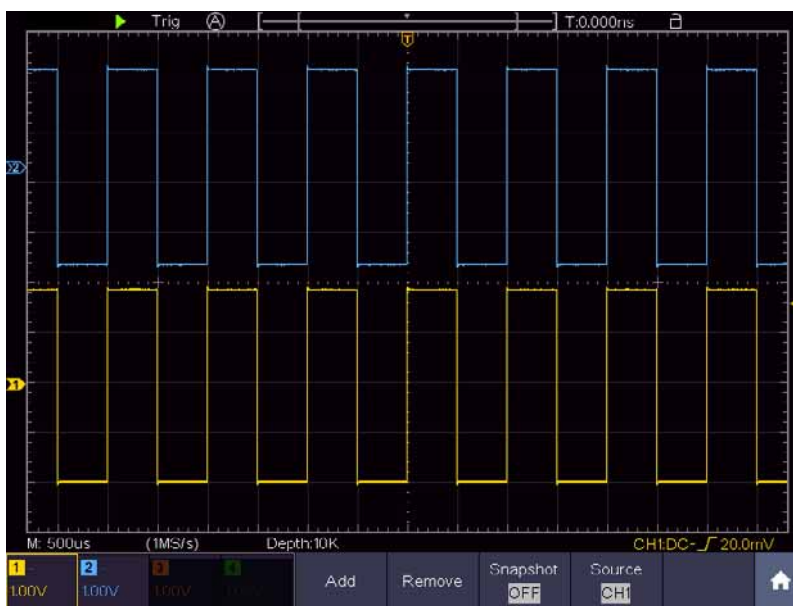

Figure 0-2 Waveform of Gain Measurement
- (1) Push the **Autoset** button and the oscilloscope will automatically adjust the waveforms of the two channels into the proper display state.
- (2) Push the **Measure** button to show the Measure menu.
- (3) Select **Add** in the bottom menu.
- (4) In the left Type menu, turn the **M** knob to select **PK-PK**.
- (5) In the right menu, select **CH1** in the **Source** menu item.
- (6) In the right menu, select **Add**. The peak-to-peak type of CH1 is added.
- (7) In the left Type menu, turn the **M** knob to select **PK-PK**.
- (8) In the right menu, select **CH2** in the **Source** menu item.
- (9) In the right menu, select **Add**. The peak-to-peak type of CH2 is added.
- (10) Read the peak-to-peak voltages of Channel 1 and Channel 2 from the bottom left of the screen (see *Figure 0-2*).
- (11) Calculate the amplifier gain with the following formulas.